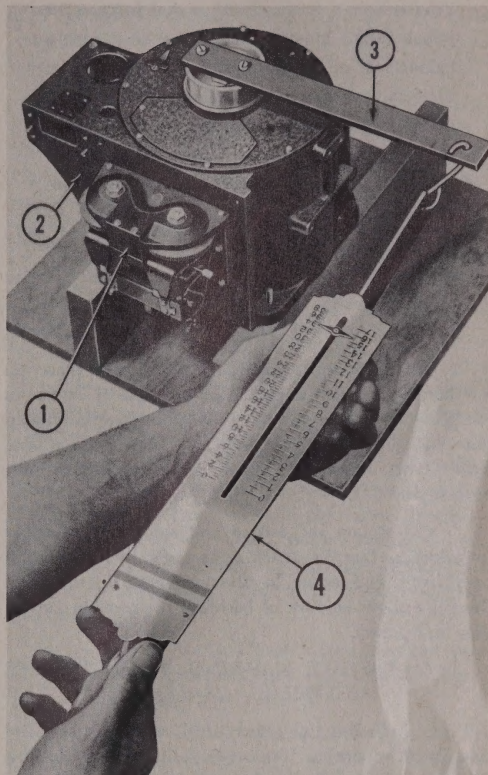

Figure 284 — Checking Pull of Torque Motor
6. (See figure 284.) Place a film of heavy oil (Specification No. VV-0-581) over the thrust plugs on the magnet armatures. Bolt the assembled torque motor (1) to a torque motor test fixture (2), and connect the motor leads and magnet lead to a 26-volt d-c power source. With the motor running at rated speed, energize one of the magnets. Check the torque exerted on the cardan gudgeon pin on an arm (3) having a radius of 8 inches. Force at this radius on the gudgeon pin should be from 14 to 15¾ pounds. Energize each magnet separately, checking the torque exerted. Torque in each direction should be approximately the same (112 to 126 pound-inches). If the force exerted is less than 14 pounds, the magnet armature thrust plug may be too thick, providing too much of an air gap between the magnet armature and the magnet. If too much force is exerted, the magnet armature thrust plug (1, figure 264) may be too thin, and the air gap between the armature and the magnet too small. The thickness of the thrust plug may be varied by carefully filing down the plug to make it thinner, or if additional thickness is required, by removing the plug and replacing it with a thicker plug. However, before filing the thrust plug, it is advisable to loosen the two fillister-head screws holding the magnet armature frame to the motor frame and also the fillister-head screws securing the magnet to this frame, and slide the magnet armature frame up or down as much as possible to gain the equivalent of a thicker or thinner thrust plug. Then, tighten these three fillister-head screws. The adjustment possible in this manner is very slight, but often